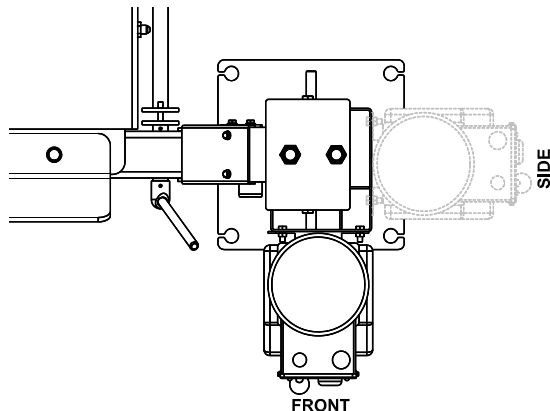

Fig 12 – Power Unit
- 30) Install the Power Unit to the column using the supplied M8x20mm bolts and M8 nuts. The power unit can be installed on either the front or side of the power column to suit install location, shown in Fig 12.